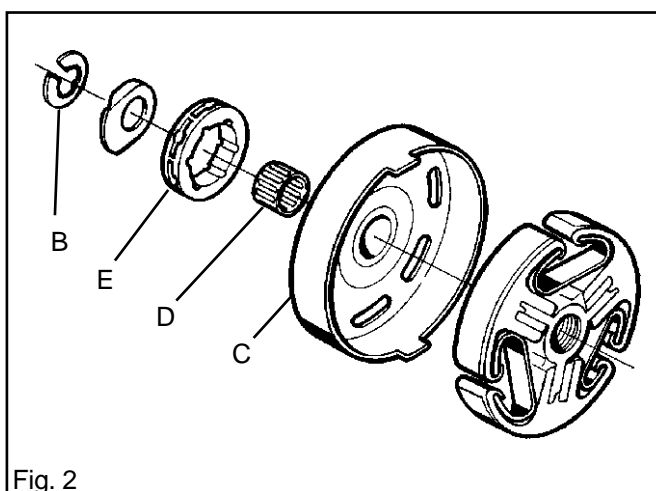

Fig. 2
3. Remove the circlip (B) and washer and remove the clutch drum (C), together with the needle roller bearing (D) and chain drive-wheel (E). See fig. 2.